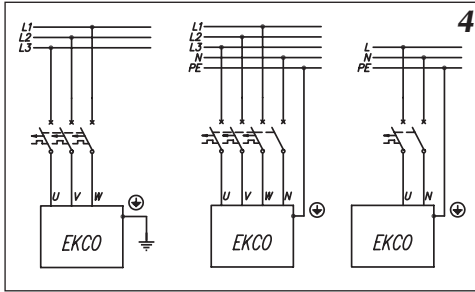

Fig.4 Connection to the electric mains
5. Connect a boiler to the electrical system (see fig. 4).